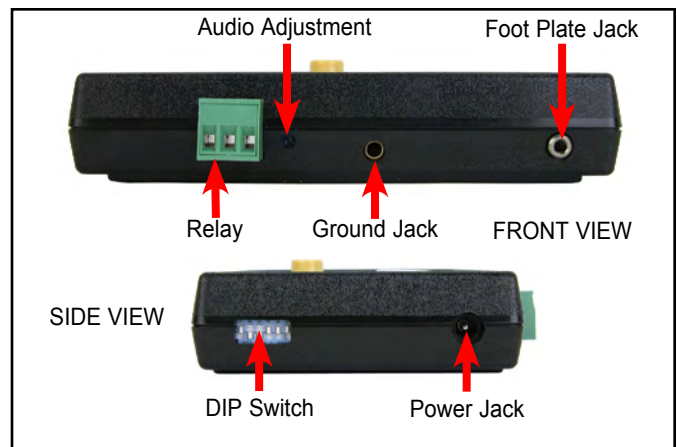

Figure 2. Combo Tester X3 views
The resistance limits for footwear and wrist strap tests are controlled by the DIP switches located on the left-side of the tester (see Figure 2). See the following tables for the DIP switch settings and their corresponding test values.
- III. Insert one end of the Stereo Plug to Stereo Plug cord into the stereo jack located at the bottom of the tester (see Figure 2). Insert the other end of the cord into the stereo jack at the back of the foot plate.
- IV. Insert the banana plug end of the Banana Plug to Ring Terminal cord into the ground jack located at the bottom of the tester (see Figure 2). Connect the ring terminal end of the cord to equipment ground. This connection will remove any static charge from the user before the test. NOTE: Failure to correctly ground the tester may result in damage not covered under warranty.
- V. Insert the power supply plug into the power jack located on the left-side of the tester (see Figure 2). Plug the power supply into an appropriate power outlet.
- V. Insert one end of the Stereo Plug to Stereo Plug cord into the stereo jack located at the bottom of the tester (see Figure 2). Insert the other end of the cord into the stereo jack at the back of the foot plate.
- VI. Insert the banana plug end of the Banana Plug to Ring Terminal cord into the ground jack located at the bottom of the tester (see Figure 2). Connect the ring terminal end of the cord to earth ground. This connection will
- Value. Insert the power supply plug into the power jack located on the left-side of the tester (see Figure 2).